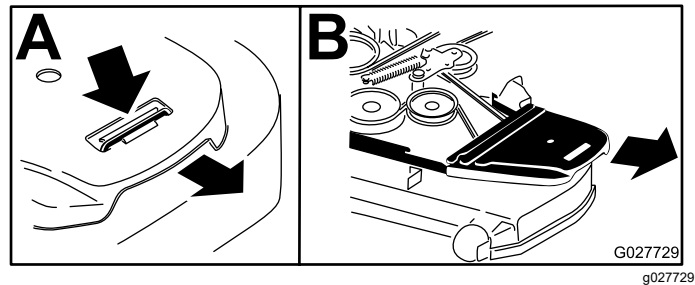

Figure 91
4. Remove the belt covers (Figure 91).